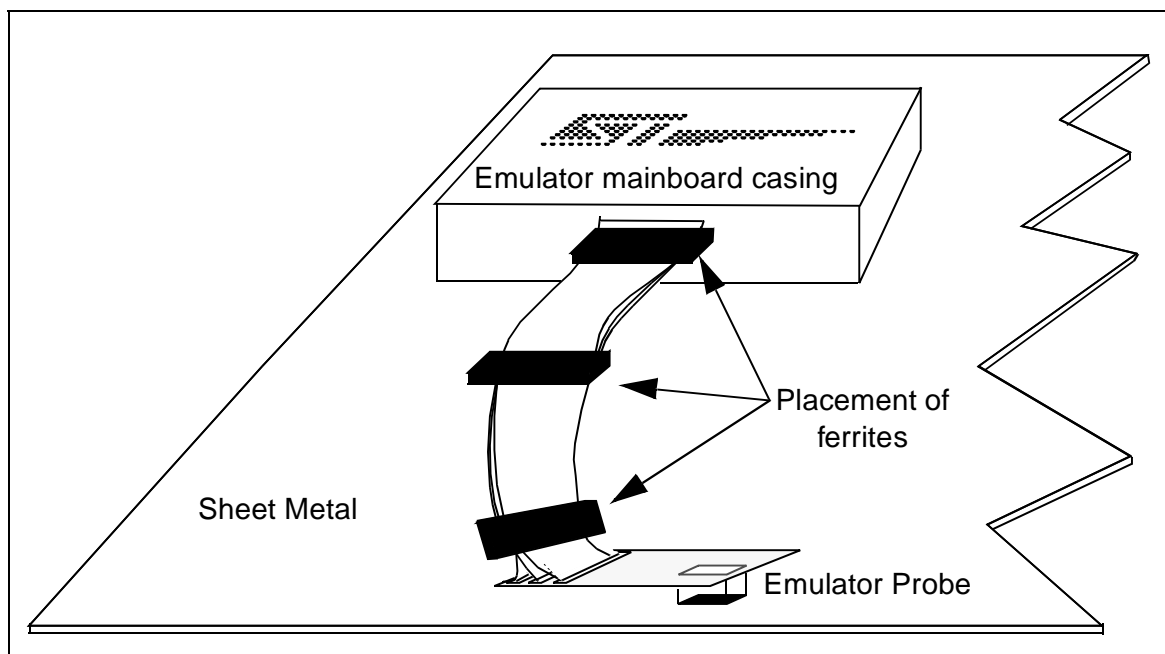

Figure 5: Placement of ferrites for EMC conformity
- 4 **EMC conformity** (optional): In order for the ST9 HDS2V2 emulator to meet the EMC requirements of the European guideline 89/336/EEC, you must follow the guidelines laid out in Appendix A: EMC Conformity and Safety Requirements on page 33 and place the three ferrites provided as shown in Figure 5 on page 15.